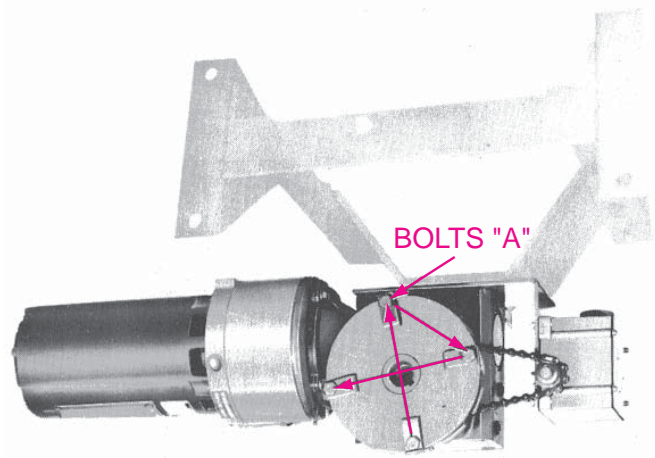

Figure 12.
(1) Loosen all four bolts on operator friction clutch so that drive sprocket is free to rotate with roller chain, when gearmotor is not running. (See Figure 12)
(2) Determine if the system controls are set up as Momentary or Constant pressure.
(1) The purpose of the clutch is to protect the equipment from shock loads that might be introduced into the system. Under normal operation the clutch will not slip. Therefore, the clutch should be adjusted to a sufficient torque that will allow the operator to start and stop the door without any slipping. Keep in mind also that the clutch should not be so tight that it cannot slip under excessive loads.
(2) To adjust the clutch, tighten the bolts marked "A" as shown in Figure 12. Never tighten bolts consecutively, but always directly across from each other so as to provide even tension. An **equal turn** of each bolt is an important adjustment procedure. (See Figure 12).